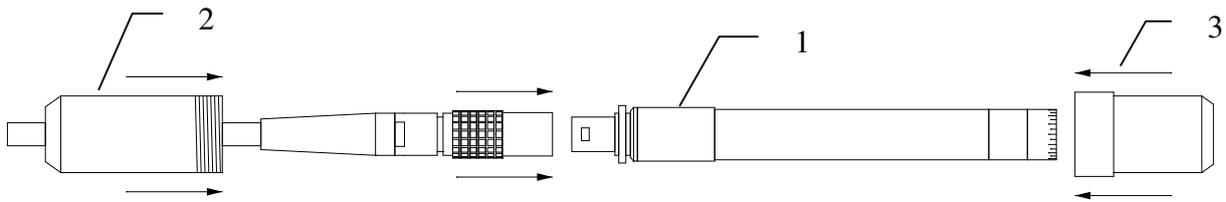

Fig. 1.2. Assembling of weatherproof accessories – step 1.
- Fasten the part (2) of microphone holder to microphone extension cable PD7Lx and next connect this cable to microphone-preamplifier assembly (1) (see Fig. 1.2).
- Put part (3) of microphone holder on microphone-preamplifier assembly (1) and then screw it to part (2) of microphone holder fastened earlier to extension cable (see Fig. 1.2).